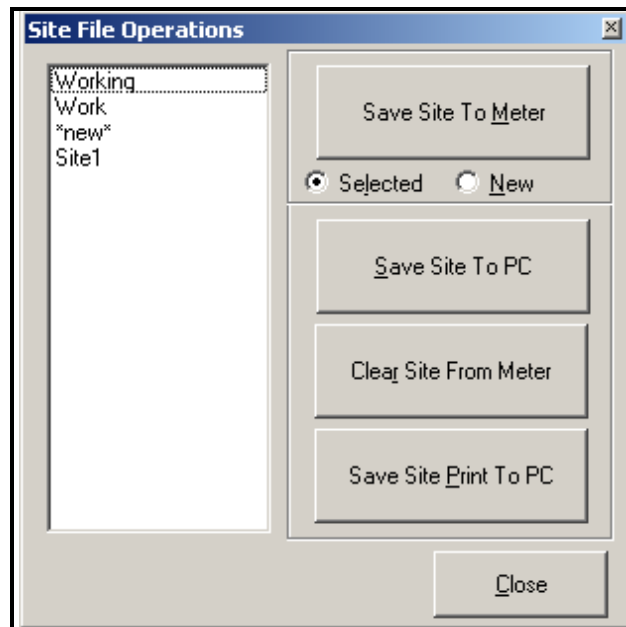

Figure 14: The *Site File Operations* Window
To access site files, click on the *Site Files* button in the *Properties* window. The *Site File Operations* window (shown in Figure 14 below) opens.
1. Highlight the desired site in the left pane (see Figure 14 on page 12)
1. Highlight the site in the left pane (see Figure 14 on page 12).